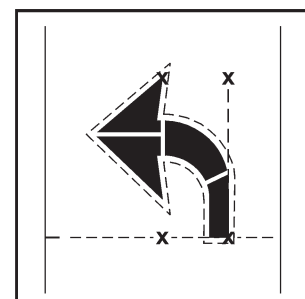

Figure 14
5. Lay out the top two sections of the arrow (liner still on) on top of the base. Mark around the entire arrow with grease chalk or keel (see Figure 14).
- After the surface preparation adhesive is set, remove the liner from the base of the arrow and carefully lay it down using the marks made in Step 5 (Figure 14) as a guide.